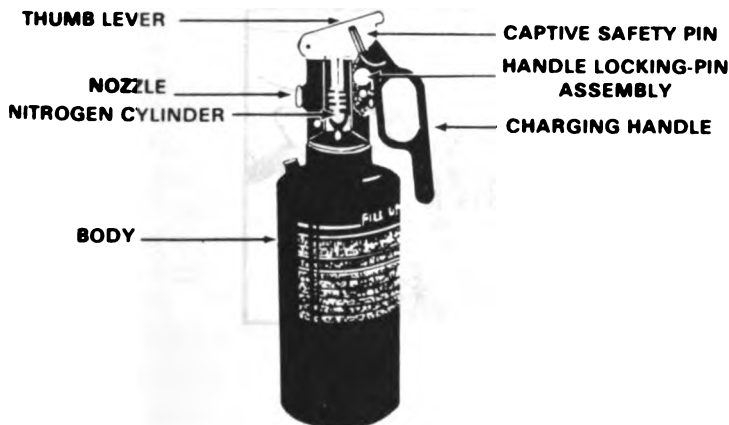

Figure 1
1. The M11 decontamination apparatus (fig. 1) has a 1 1/2-quart capacity and normally holds 1 1/3 quarts of DS2 decontamination solution. It is normally mounted in wheeled and tracked vehicles, to be used to decontaminate surfaces which must be handled to operate the vehicle or allow it to perform its mission (e.g., laterals, steering wheel, driver's seat, and combat door, hatches, etc.)